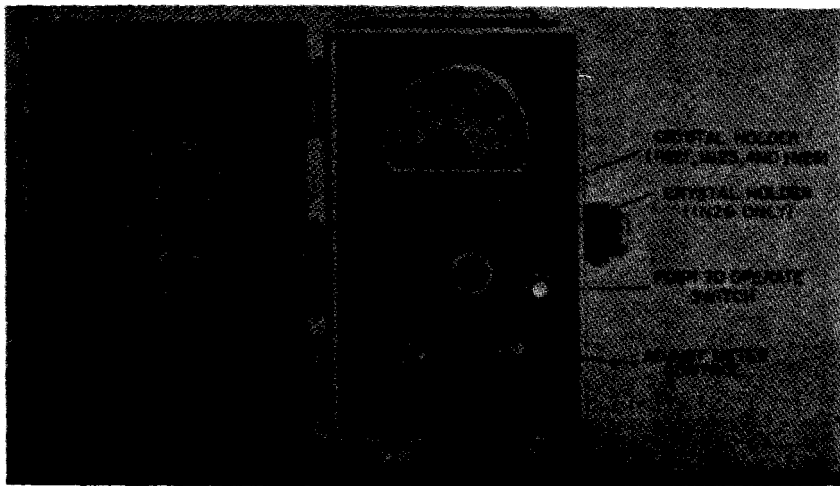

Figure 9.1. (Added) Crystal Rectifier Test Set TS-268E/U, front panel.
a. Crystal Rectifier Test * * * the front panel. Crystal Rectifier Test Set TS-268E/U, however, has two crystal socket holders on the front panel (fig. 9.1). All circuit components are mounted beneath this panel.
- (4) *Meter*. Provides a direct reading indication of the forward and backward resistance in kilohms, and the back current in milliamperes of the crystal under test. In addition, on all models except the TS-268E/U, there are a number (four or five, depending on model) of color-coded scales for a direct indication of the condition of the crystal. These scales establish the crystal as good or poor. With Crystal Rectifier Test Set TS-268E/U, the condition of the crystal under test is determined by comparing the current reading with the maximum allowable current values listed in the condensed summary of operating instructions inside the cover of the test set and in paragraph 31. The d-c resistance of the meter should be 100 ohms \pm 2 percent.
c. *Crystal Holder*. Crystal Rectifier Test Set TS-268/U has a snap-in type crystal holder. Crystal Rectifier Test Sets TS-268B/U, TS-268C/U and TS-268D/U have insert type crystal holders. Crystal Rectifier Test Set TS-268E/U has two crystal holders. One holder is a snap-in type equipped with a trip lever to facilitate removal of crystals. The other holder is a coaxial type holder for testing 1N26 crystals only (fig. 9.1).